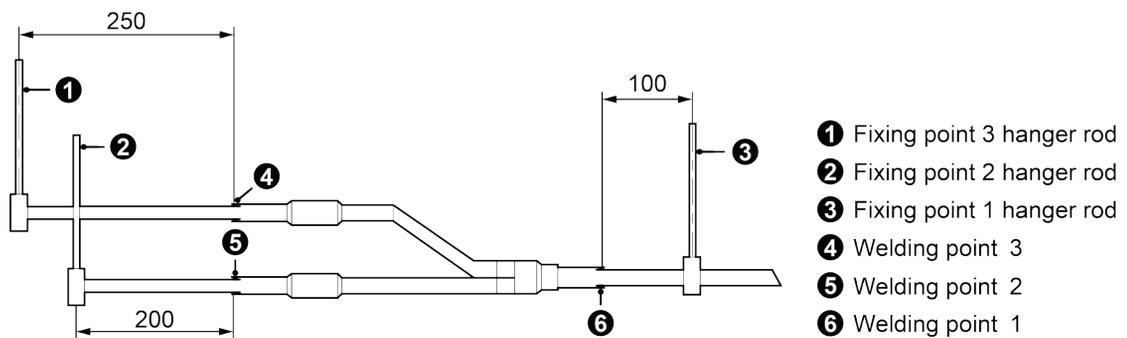

Fig.4.4.8
(3) There must be three fixing point for both horizontal and vertical installation of the Y-type manifold. See Fig.4.4.8.